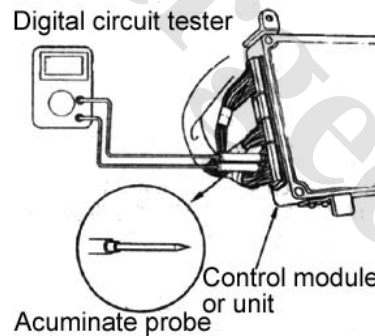

Fig. 4-10
13. Apply the probe with conical tip. (Fig. 4-10)